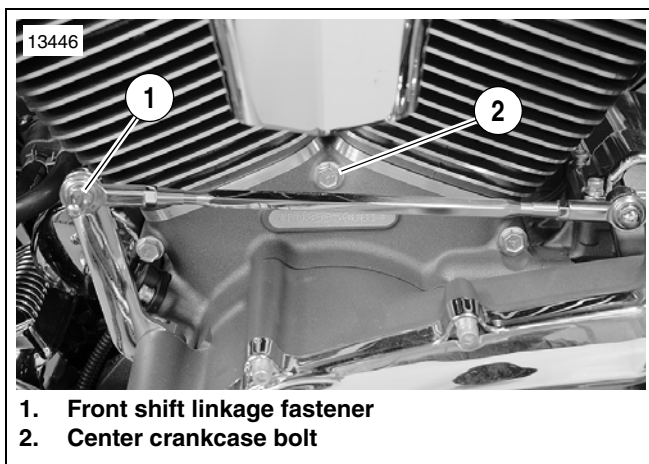

Figure 1. Crankcase Bolt
5. See Figure 1. Replace the crankcase bolt using part number 1090A supplied.
- a. Remove front shift linkage fastener (1) to gain access to the crankcase bolt (2).
- b. Remove bolt (2) and replace with **new** one supplied. Tighten to 15-19 ft-lbs (20.3-25.8 Nm).